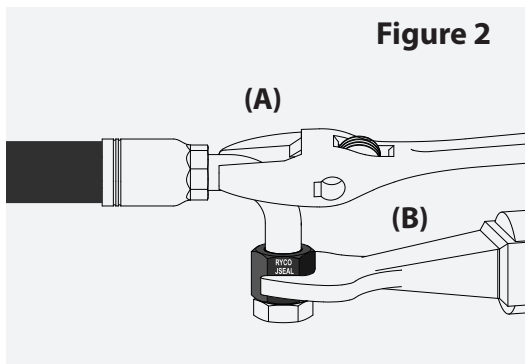

Figure 2
2. Use a suitably sized adjustable wrench (A) to engage the tube portion of the coupling body (as shown in Figure 2) to prevent it from rotating.
3. While holding wrench (A) in position, engage torque wrench (B) and tighten the black JSEAL™ nut to the corresponding assembly torque value listed in Table 1 herein.